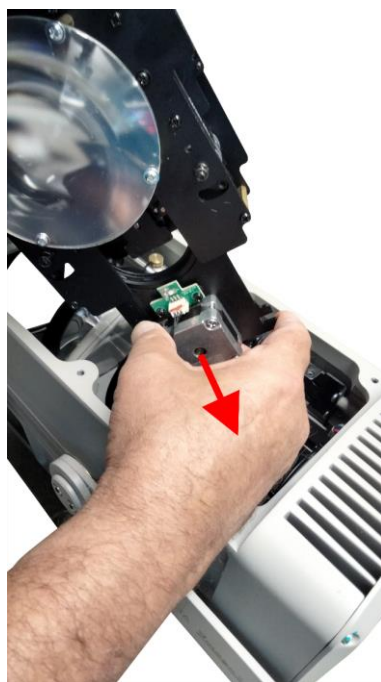

Fig. 16
- 07) Very carefully take the gobo holder out of the gobo/shutter blade assembly, as shown in Fig. 16.